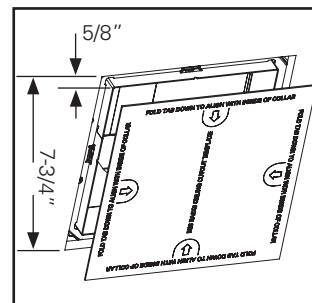
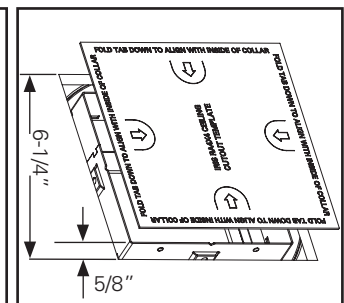

Figure 3.
Figure 4.
2. Using the template provided, cut around the collar so that there is a 5/8" gap between the collar and the ceiling – 7-3/4" overall for RA6X6 (Figure 3.); 6-1/4" overall for RA4X4 (Figure 4.). If needed, lower the collar by loosening the collar locking screws, and then hand-tighten the screws to secure the collar in the correct position.